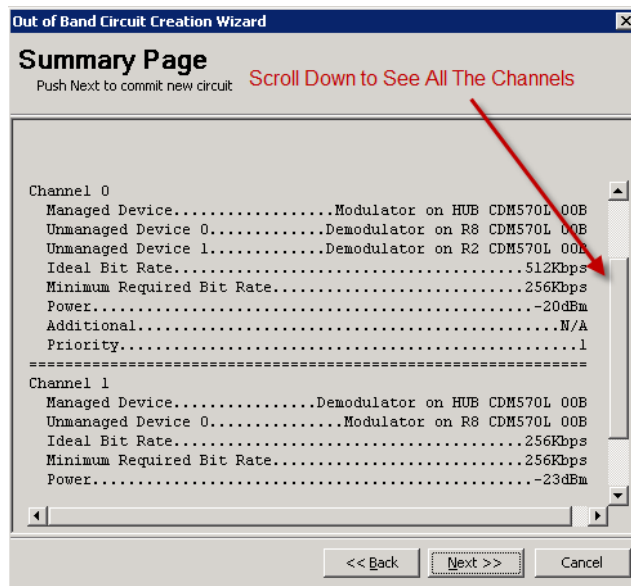

Figure 7-28 Summary Page, Custom P2P with Broadcast
48. Click on the **Next** button (becomes active when configuration parameters have been set) to proceed to the wizard **Summary Page** (figure 7-28).